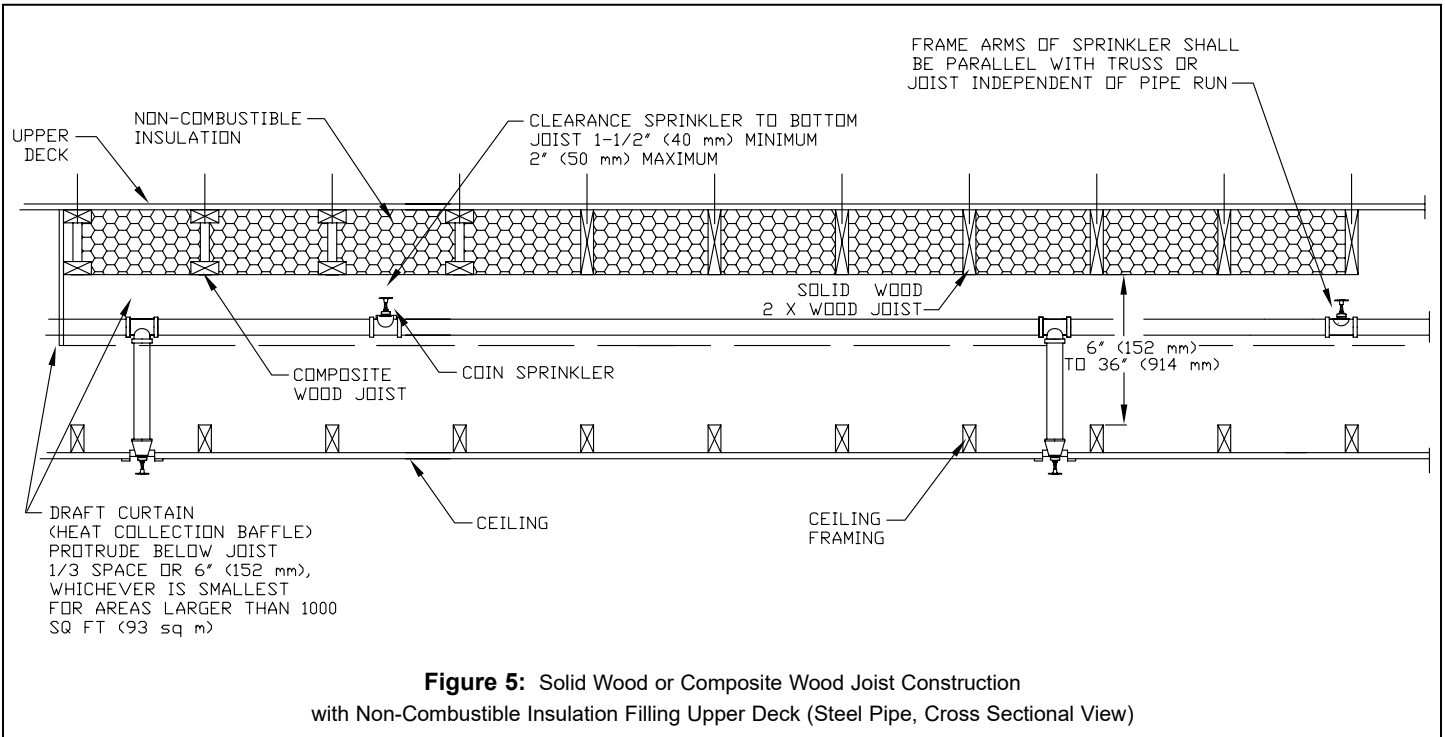
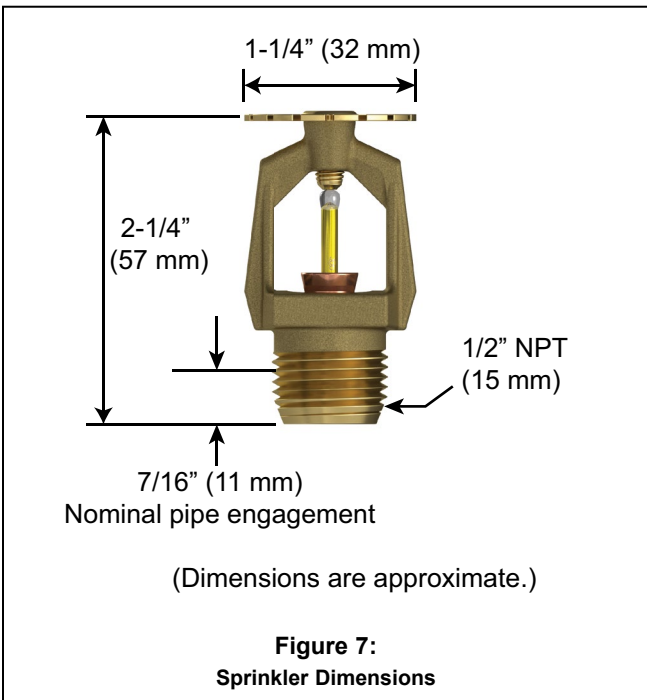

Figure 5: Solid Wood or Composite Wood Joist Construction with Non-Combustible Insulation Filling Upper Deck (Steel Pipe, Cross Sectional View)
Figure 7:
DESIGN CRITERIA - STEEL PIPE (See Figures 5 through 7)
- Maximum space from bottom of upper deck to ceiling surface (bottom of joist): 54" (1 372 mm). See Figure 5.
For truss construction, wood or steel bar joist (Figure 7):
The remote area for wood truss construction or bar joist construction (Figure 7) or solid wood joist construction (Figure 5) is 1000 ft² (93 m²) for wet pipe systems or 1,300 ft² (121 m²) for dry pipe systems.